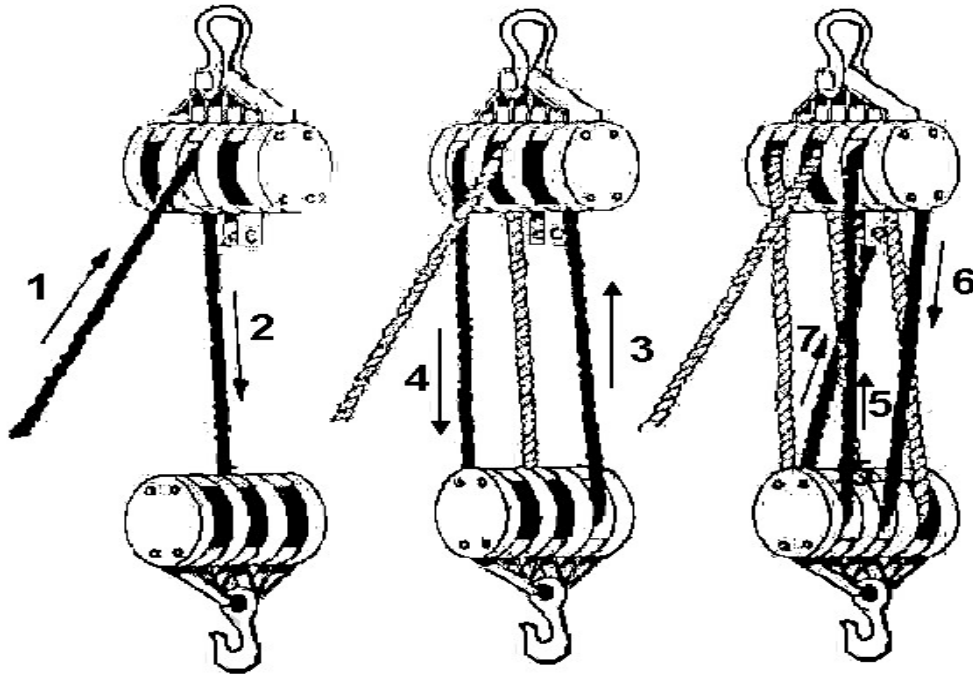

Figure 3-30
1. Lay the blocks out (see Figure 3-30).